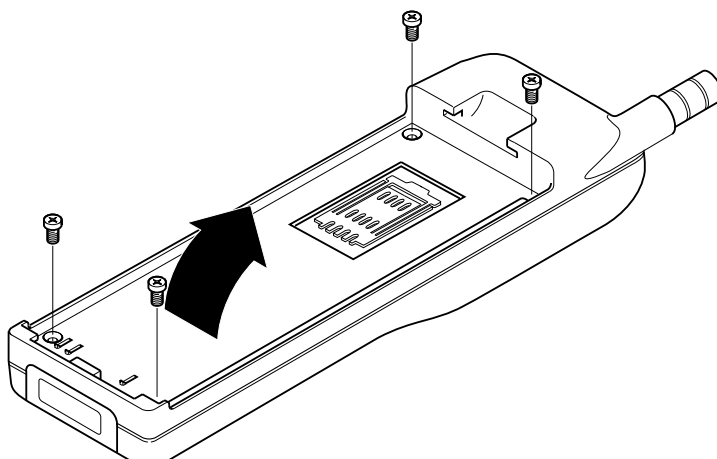

Figure 2: Case disassembly
2. (Figure 2) Remove the back from the telephone case (4 screws).